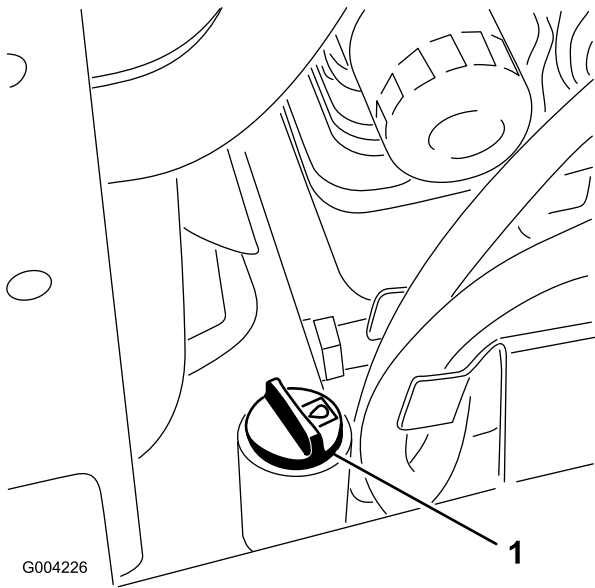

Figure 58
5. Clean the area around the filler neck of the hydraulic tank (Figure 58).